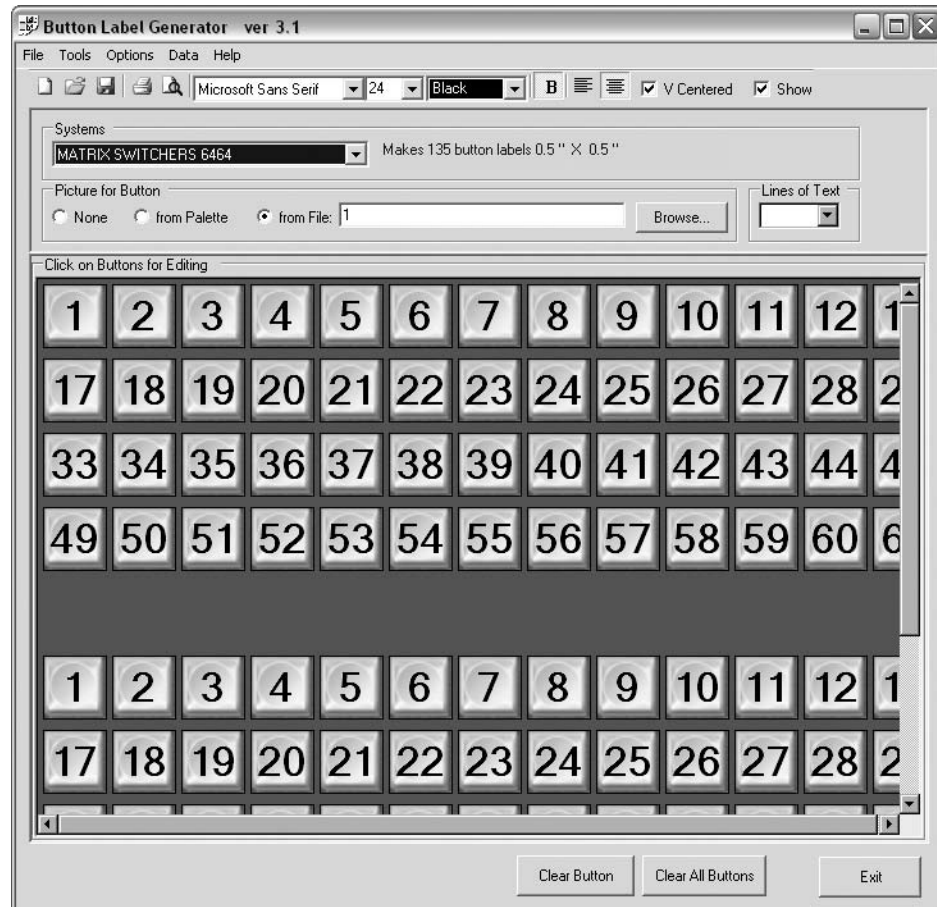

Figure 5-19 — Extron's Button Label Generator window
1. To run the Button Label Generator program, click **Start > Programs > Extron Electronics > Button Label Generator > Button Label Generator**. The Button Label Generator window appears (figure 5-19).